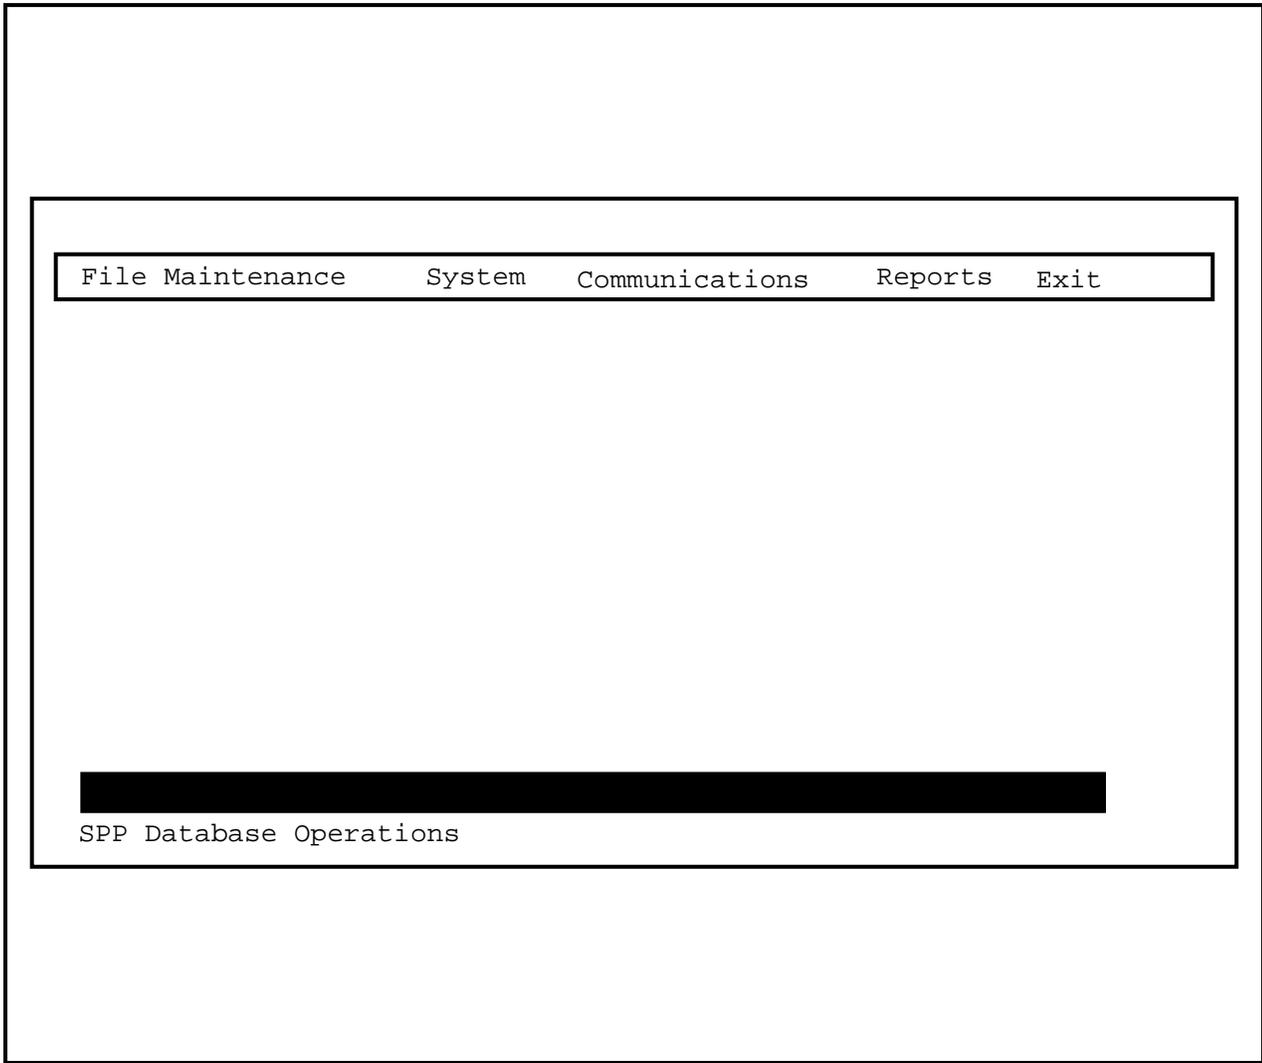

Fig. 2-1
- (c) **File Maintenance Menu.** Chapter 3 includes the step-by-step information for configuring nodes, call collector 3 (CC3) devices, and ports using the File Maintenance option of the SPP main menu. (See Fig. 2-1 for an illustration of the SPP main menu.)
2.08 The SPP main menu is the starting point for all work in the SPP system. The SPP main menu and menu options provide access to the other menus used to enter and retrieve data, print reports, initiate communications, and monitor SPP operations. Figure 2-1 illustrates the SPP main menu. Table 2-A lists the main menu and menu option functions.